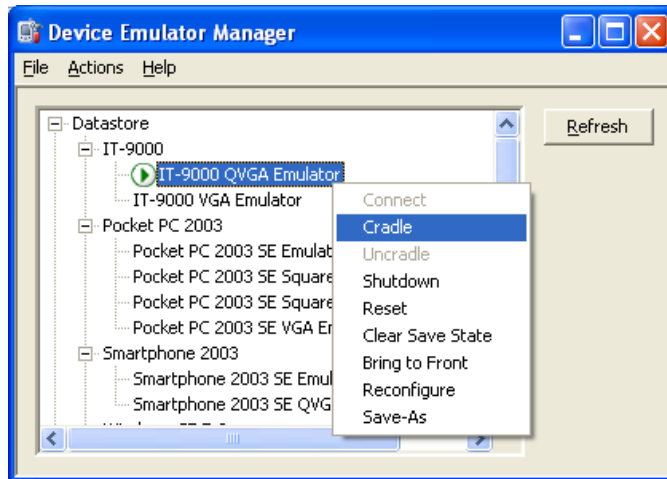

Figure 7.15
4. Start up Visual Studio 2008 or Visual Studio 2005, and then navigate to **Tools → Device Emulator Manager**. Right-click the **IT-9000 Emulator** in **Available Emulators** list and then choose **Cradle** in the popup menu. See Figure 7.15.